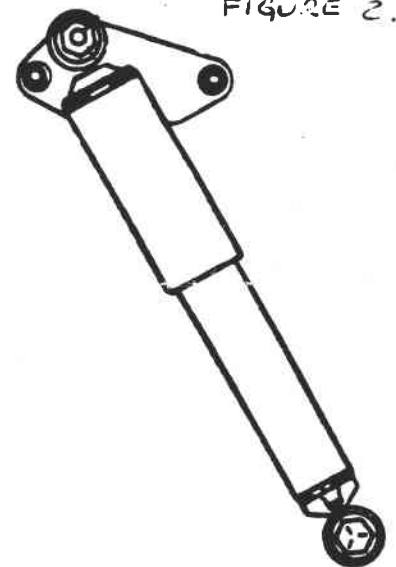

FIGURE 2.
5. Attach the upper bracket to the frame where the lever arm shock used to be, using the same bolts. The orientation of the bracket is as shown in figure 2, except that it is upside down for rubber bumper MGBs.